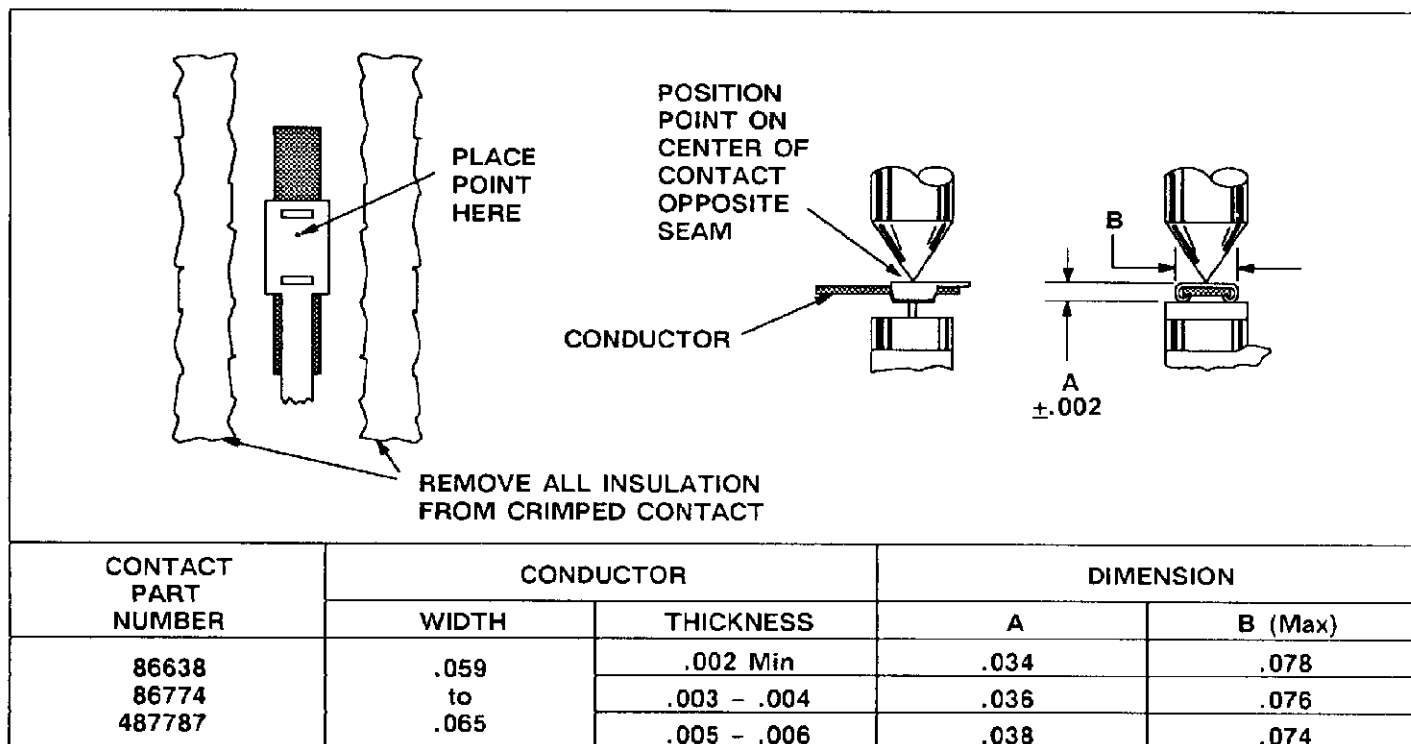

Fig. 7
This inspection incorporates the use of a micrometer with a modified anvil, as shown in Figure 7. AMP recommends the modified micrometer (Crimp Height Comparator RS-1019-5L), which can be purchased from:
3. Cut all insulation away from the crimped contact, as indicated in Figure 7.
4. Using a crimp height comparator, measure each wire barrel crimp height as shown in Figure 7. If the crimp height conforms to the dimensions provided, then the tool is considered dimensionally correct. If not, return the tool to AMP for evaluation and repair (refer to Section 6, REPAIR/REPLACEMENT). For additional informa-